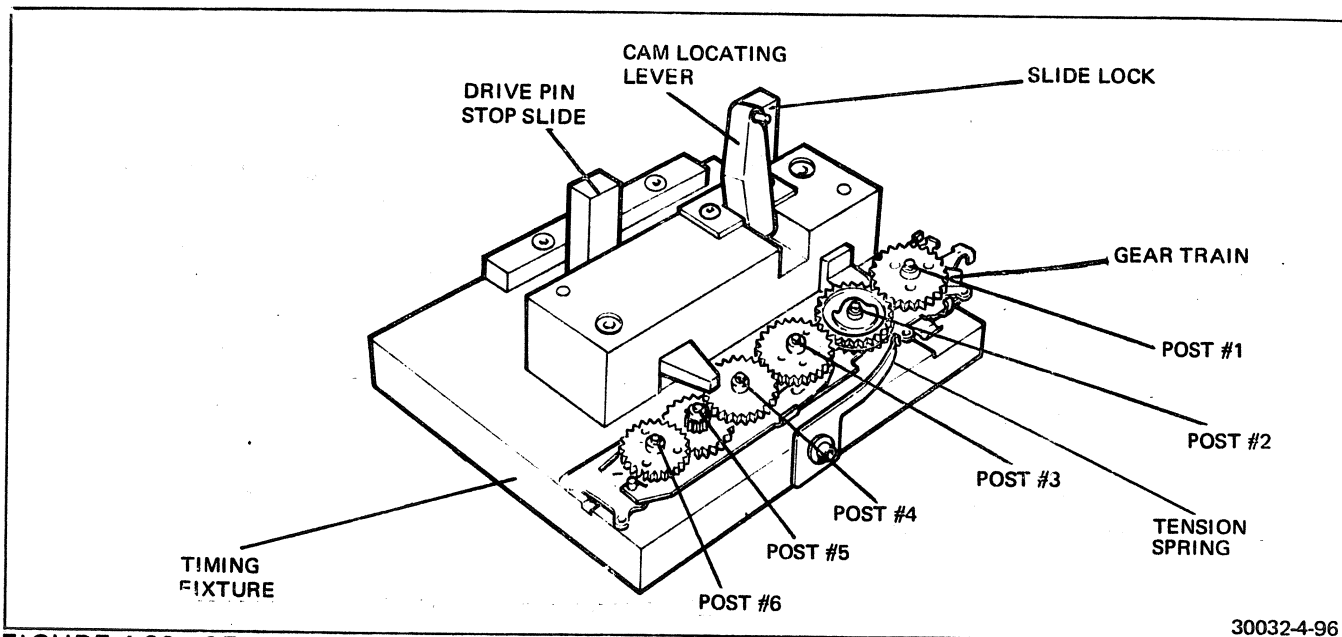

FIGURE 4-96 GEAR TRAIN TIMING FIXTURE
3. Refer to Figure 4-96. Place the outer plate (gear train assembly) in position on the fixture as shown.
6. With the cam side down, place the gear on post no. 2 (Figure 4-96). Pull out the end of the fixture tension spring sufficiently to allow the gear to drop all the way down on the post.
19. On the timing fixture make sure that the drive pin stop slide (Figure 4-96) is in the fully withdrawn position.